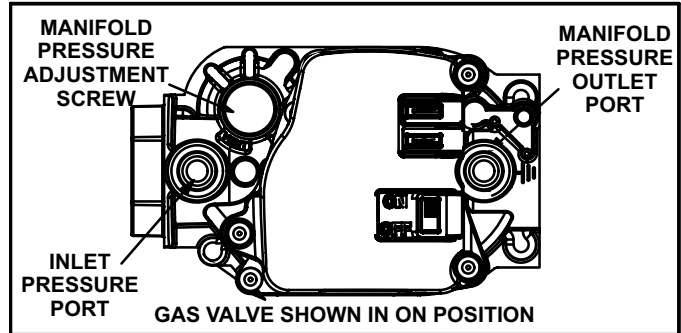

FIGURE 31
#### Gas Valve Operation (Figure 31)
- 6 - Move switch on gas valve to **OFF**. Do not force. See figure 31.
- 8 - Move switch on gas valve to **ON**. Do not force. See figure 31.